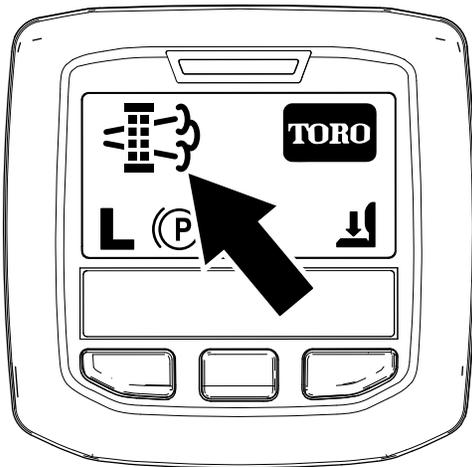

Figure 45
- When the engine computer requests either a parked regeneration or a recovery regeneration, the regeneration request icon (Figure 45) displays in the InfoCenter.